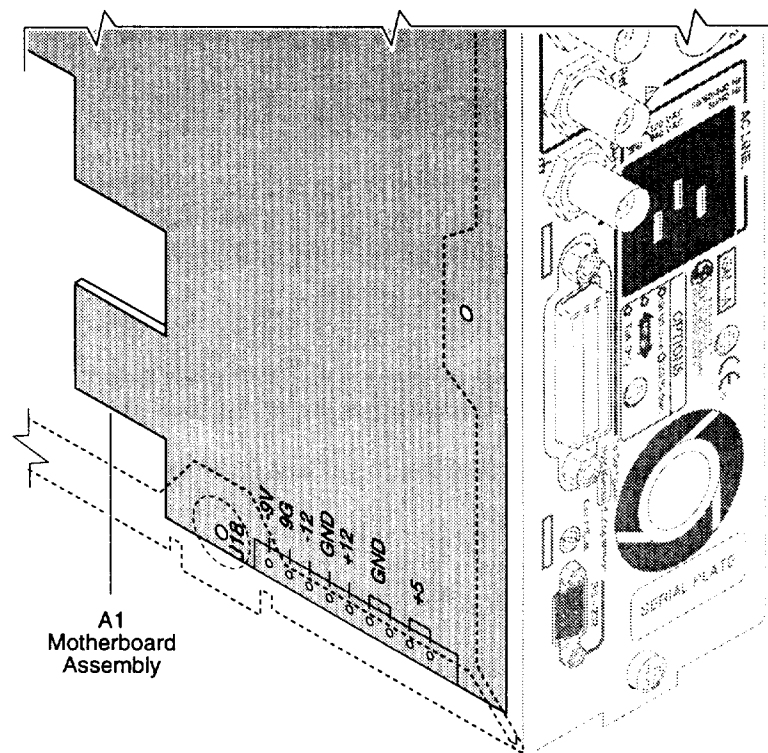

Figure 2-9. A4 AC Power Supply Testpoint Locations on A1 Motherboard Assembly (Bottom View)
- 4 Connect the negative lead of a voltmeter to the chassis and verify that the voltages in Table 2-4 matches the voltages measured on connector J18 of A1 Motherboard Assembly. See Figure 2-9 for illustration of J18 viewing from the bottom of the Counter.**
BE CAREFUL to NOT short the positive-side lead of the voltmeter to the chassis when probing at the testpoints shown in Figure 2-9.